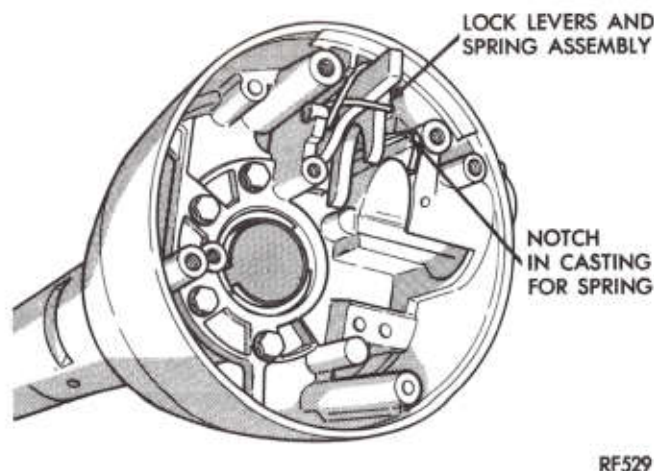

Fig. 11—Lock Levers and Spring Assembly Installed
(5) Grasp lock lever and spring assembly and pull straight out of housing (Fig. 11).
(6) Remove four lock housing to column jacket hex-head retaining screws and remove housing from
(6) Install the resulting assembly in the lock housing. Seat the pin firmly into the bottom of the slots. Make sure that the lock lever spring leg is firmly in place in lock casting notch (Fig. 11).